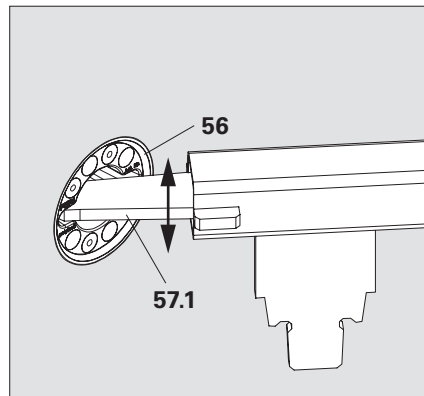

Fig. A6.17a
2. Insert the bracket (57.1) into the guide groove of the Magnetic Cone MX18 (56) from the right and clean the slot. (Fig. A6.17a)